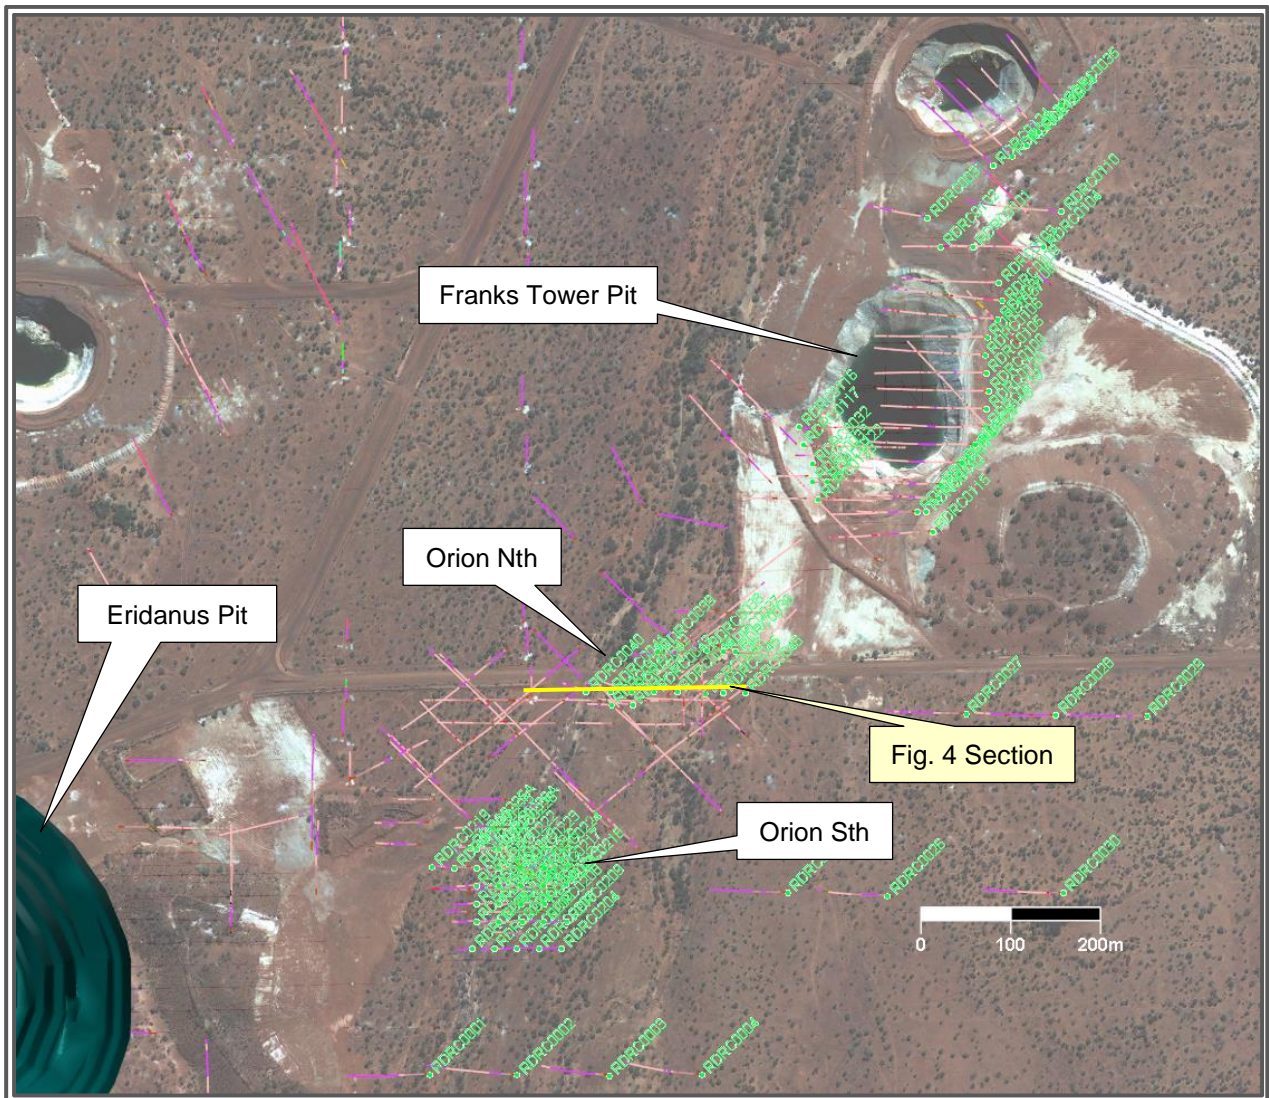
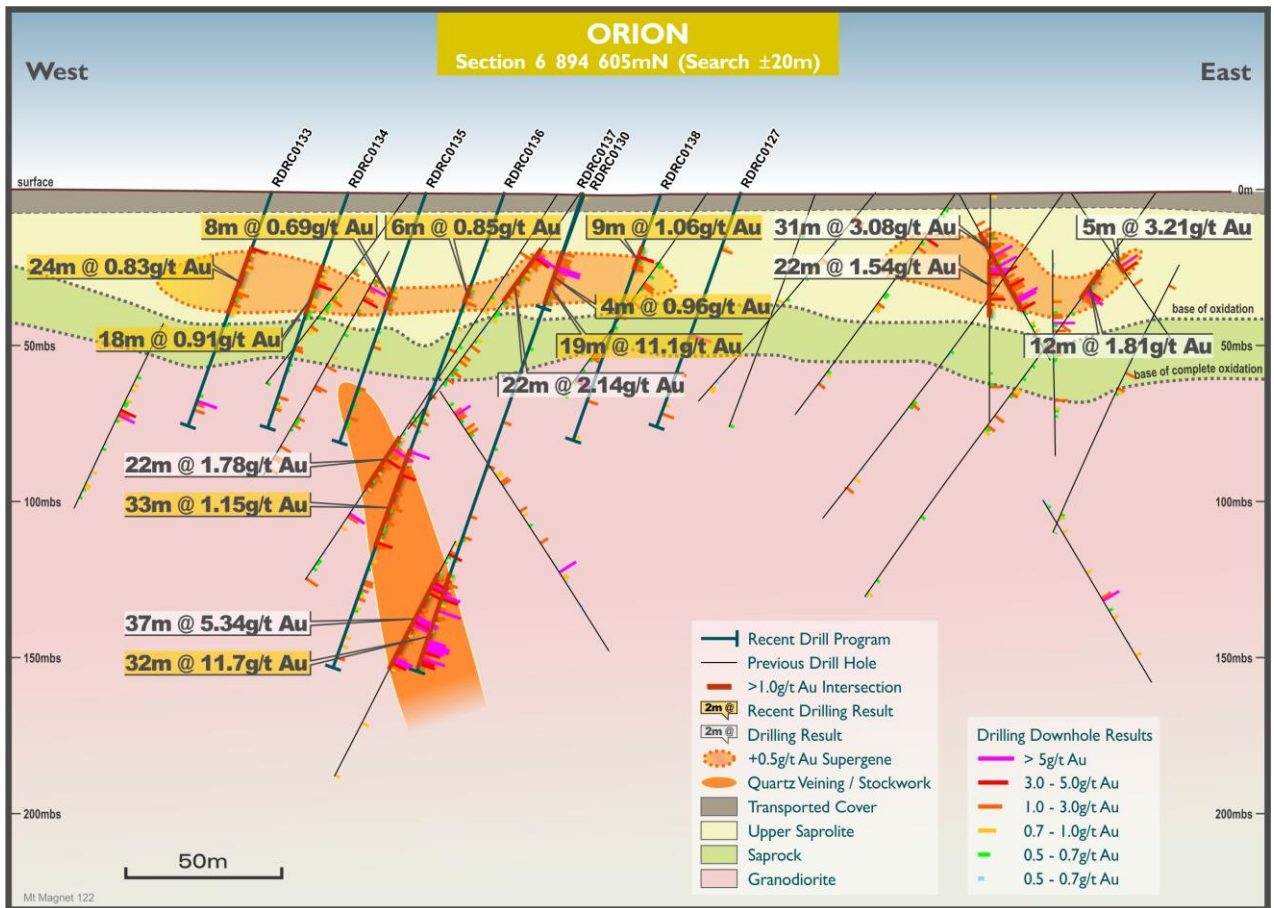

Figure 3 - Franks Tower and Orion location in relation to Eridanus
Figure 4 - Orion cross section 6894605N – drilling results
- Nineteen RC drill holes completed at Orion (refer Figure 3), along strike from Eridanus, demonstrating open pit potential. Encouraging intersections included:
Further RC resource drilling has been carried out at the new Orion project, immediately east and north-east of Eridanus (refer Figure 3). New results are encouraging for open pit potential (refer Figure 4), including: